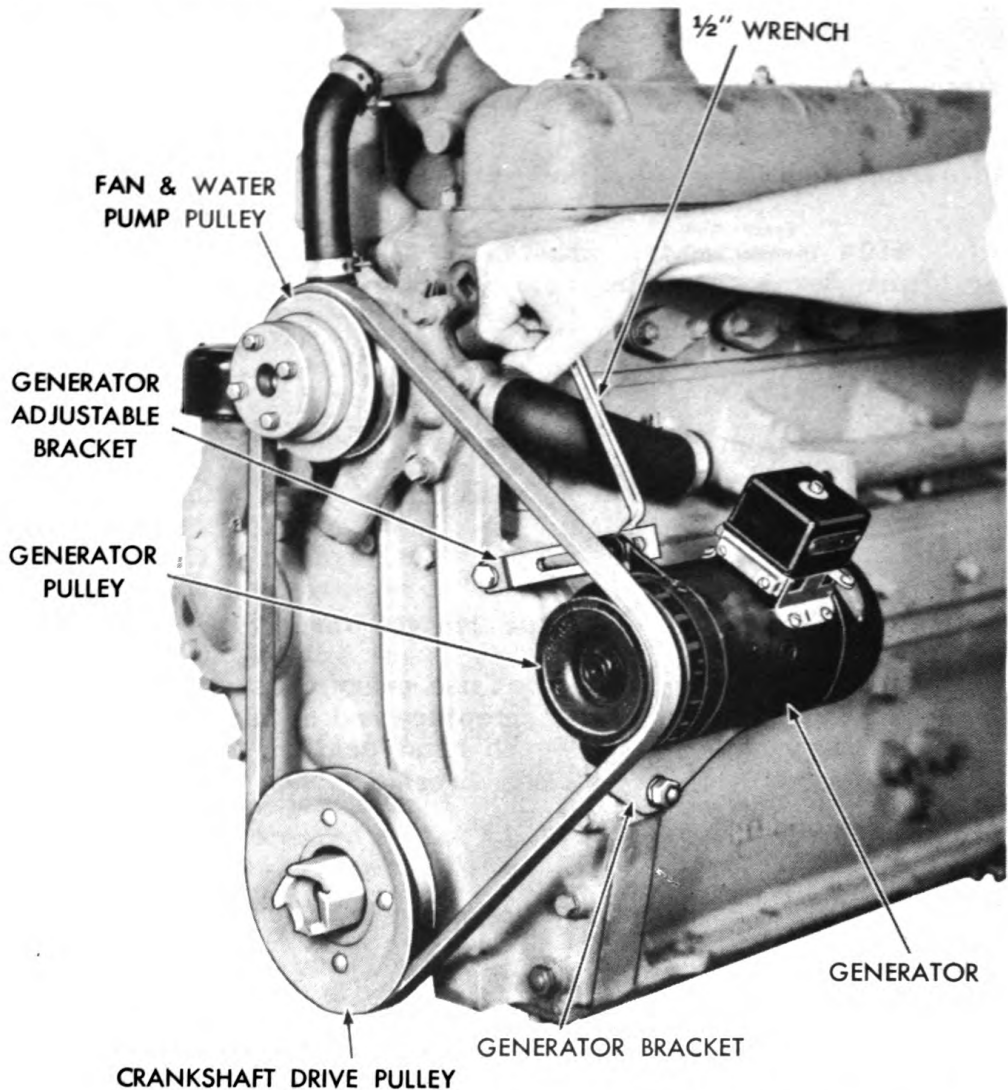

Figure 25. Adjusting Tension of Fan Belt by Shifting Generator on Bracket
5. Check the fan belt tension. It should be possible to pull the long side of the belt triangle out of line about $3/4$ ". See Figure 25.
The tension of the fan belt can be adjusted by moving the generator in or out. Loosen the locknut on the adjustable bracket of the generator and move the generator in the direction that is desired; when the proper tension is obtained, tighten the locknut. See Figure 25 on Page 44.